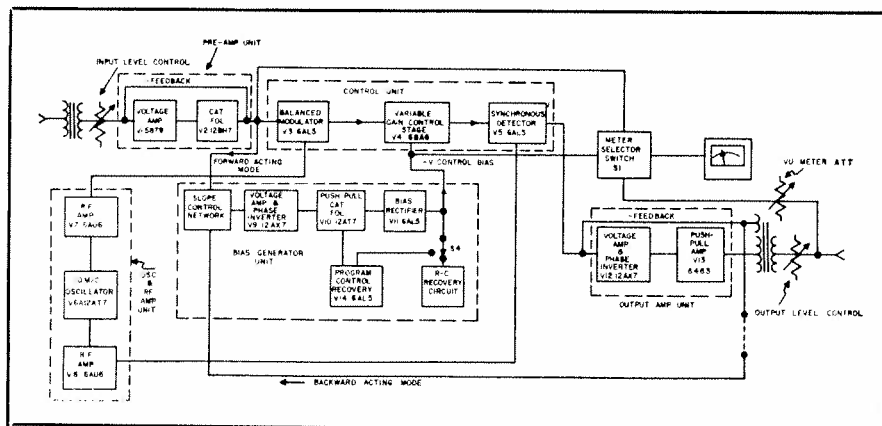

Fig. 4. Block diagram of General Electric BA-7-A.
**GE BA-7-A**—The design of GE's "Audiomatic" differs radically from the standard outlined earlier, and merits a close look. As Fig. 4 illustrates, there are five sections: oscillator-RF, bias generator,